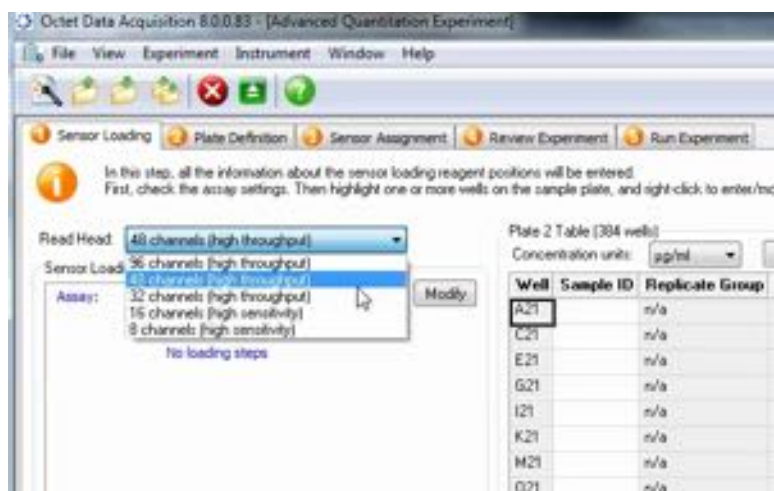

Figure 7-83: Selecting a New Read Head Setting
2. Click on the drop-down list for Read Head to select 96, 48, 32, 16 or 8 channels as the new Read Head setting for all of these early assay steps (Figure 7-83).